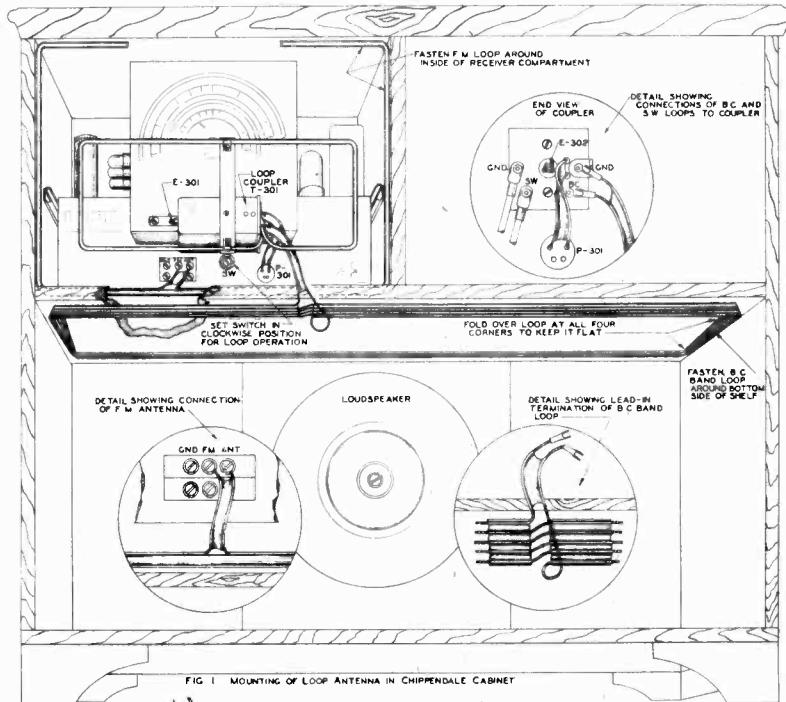

FIG. 1 MOUNTING OF LOOP ANTENNA IN CHIPPENDALE CABINET
Figure 1 depicts the manner in which the loop antennas are fastened in the radio phonograph cabinet, and by using the following instructions, step by step, the installation and adjustment of the antennas may be easily made and maximum results obtained.
2. The broadcast band loop is installed around the bottom of the cabinet shelf on the Chippendale and Modern style cabinets as shown in Figure 1. On the Regency cabinet it is necessary to install it around the left side of the receiver compartment and under the shelf of the receiver compartment as shown in Figure 2. Although this loop can be installed in other ways, it is best to install it as shown in order to prevent the loop from being too directional. This loop consists of a 5 wire flat cable cut to the correct length, with a two wire flat lead-in attached. To install the BC band loop in the Chippendale and Modern Cabinets, place the junction of the loop and the lead-in under the shelf approximately  $\frac{1}{2}$  inch in from the back and 2 inches to the right of the center of the radio compartment, with the lead-in cable facing out from the cabinet. Tack the loop down at this point with the staples furnished and follow around the inside of the cabinet with the rest of the loop fastening it to the bottom side of the shelf. When going around the corner of the cabinet it will be necessary to fold over the loop in order to keep the corners flat as shown in Figure 1. Loop the lead-in up over the edge of the shelf and fasten down at one point to relieve any strain on the loop and lead-in. To install the BC band loop in the Regency cabinet, start by fastening the junction of the loop and lead-in the same as in the Chippendale or Modern cabinets but since the Regency cabinets have a record storage compartment it is necessary to fasten the loop around the left side of the cabinet and under the shelf of the radio compartment only, with a small section in back of the record
3. The shortwave loop consists of a formed copper tubing fastened to the loop coupler coil shield can. This unit is assembled at the factory ready to mount to the chassis. This assembly is mounted under the two screws used to hold the backplate to the chassis as shown in Figure 1. The procedure is as follows:
- c. Connect the broadcast band loop lead-in as shown in the detail in Figure 1.
4. Connect the FM loop antenna to the two terminals marked ANT on the FM antenna terminal strip as shown in the detail of Figure 1.
5. Turn the loop selector switch SW1, which is located directly under the loop coupler on the rear of the receiver chassis, to the clockwise position. The slot will then be in the position shown in Figure 1.